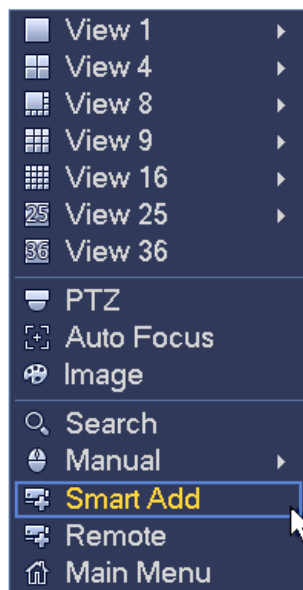

Figure 4-18
- On the preview interface, right click mouse and then select Smart add. See Figure 4-18.